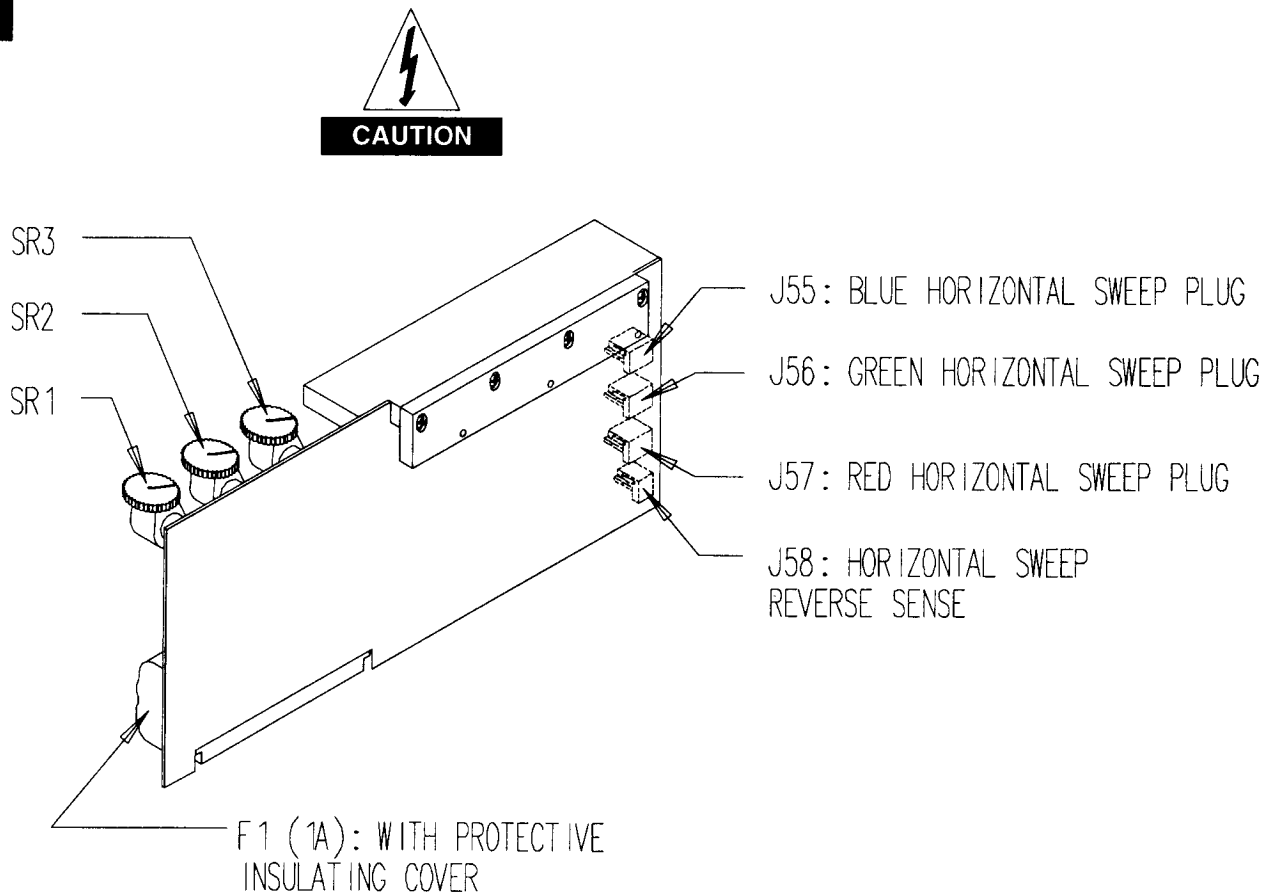

FIGURE 9-14. H.O.T Output module adjustments.
- STEP 4. Disconnect the four following plugs for the H.O.T. Output Module; **P55**: Blue horizontal output, **P56**: Green horizontal output, **P57**: Red horizontal output and **P58**: Horizontal sweep reverse sense. See Figure 9-14
- STEP 5. Remove the 3 each 4-40 phillips screws and washers which fasten the H.O.T. Output module to the right side of the main chassis. See Figure 9-14